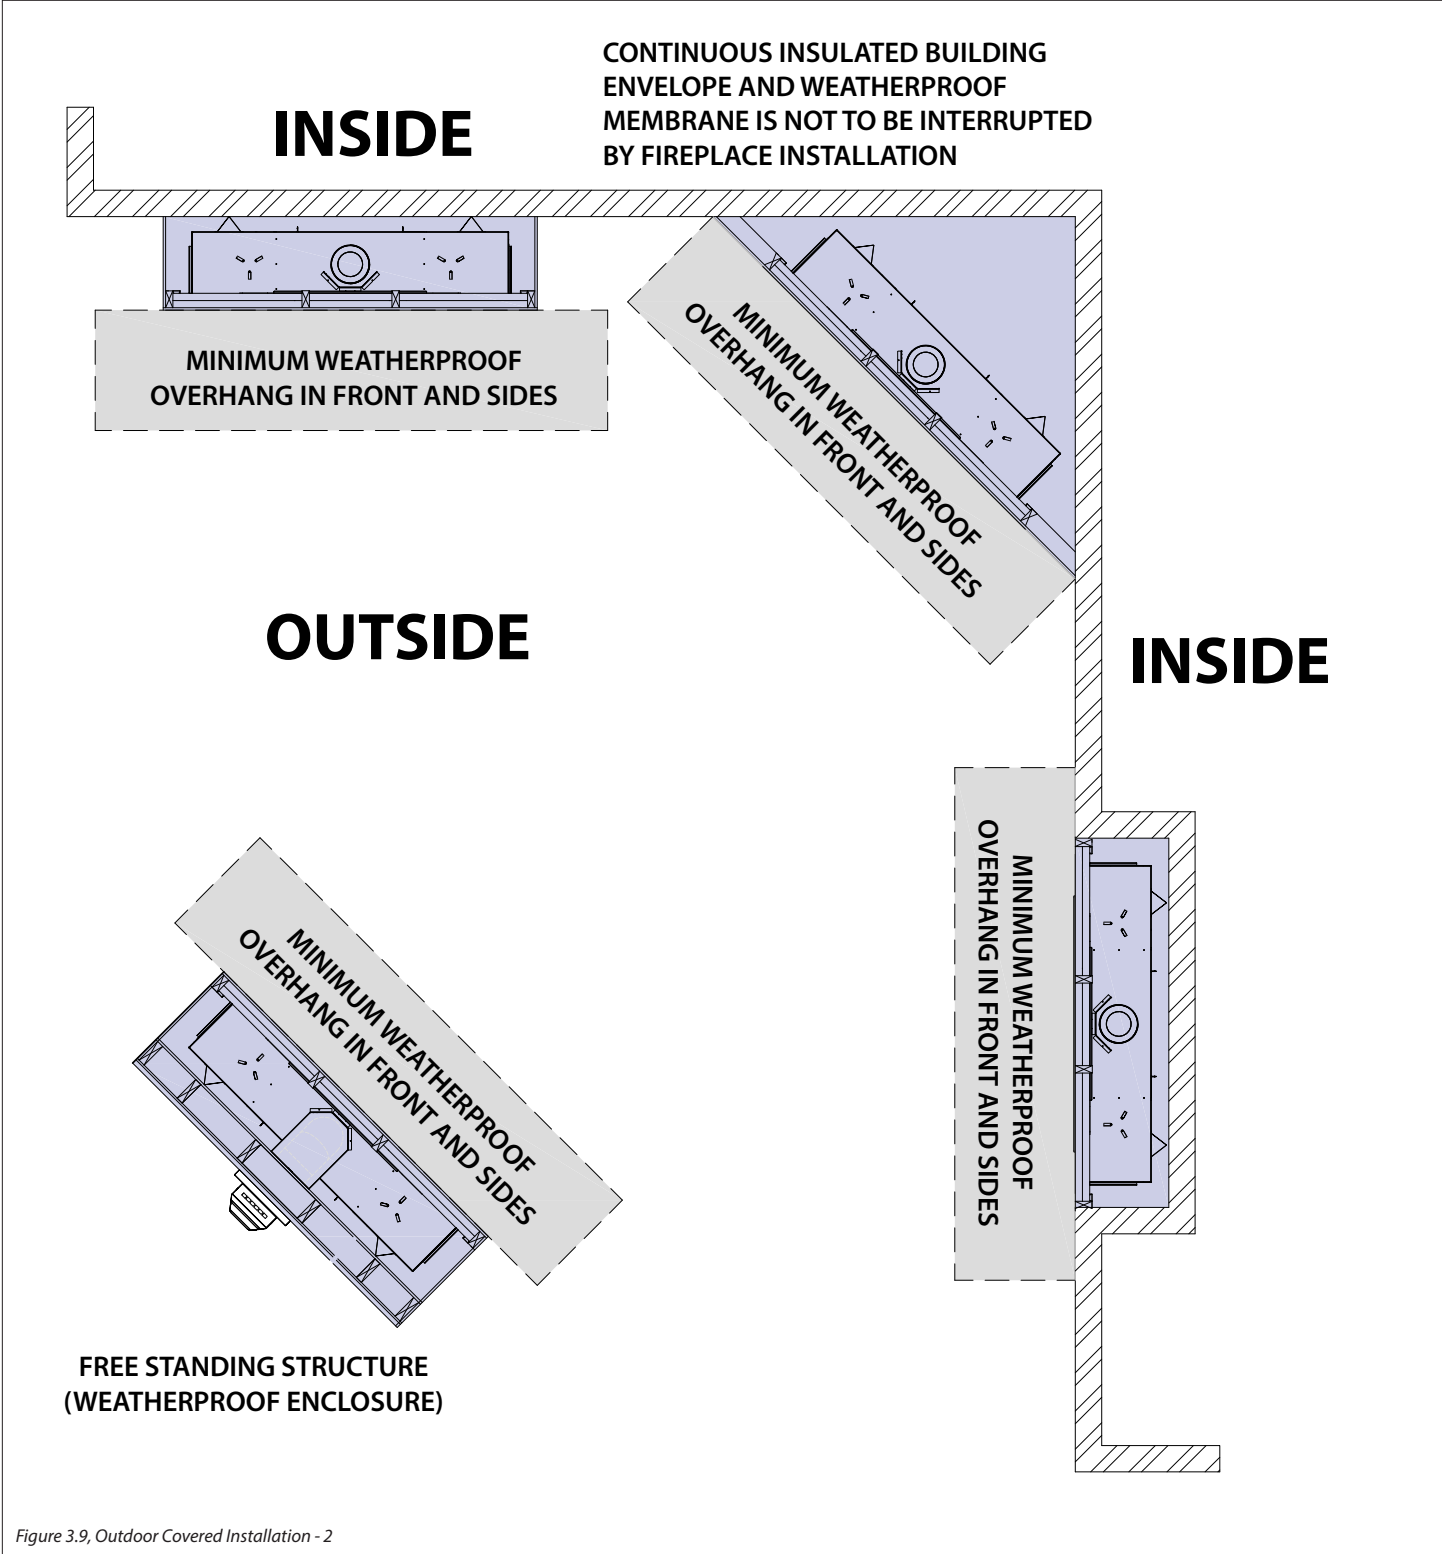

Figure 3.9, Outdoor Covered Installation - 2
- The continuous insulated building envelope and weatherproof membrane is not to be interrupted by fireplace installation. See Figure 3.9 on the following page.